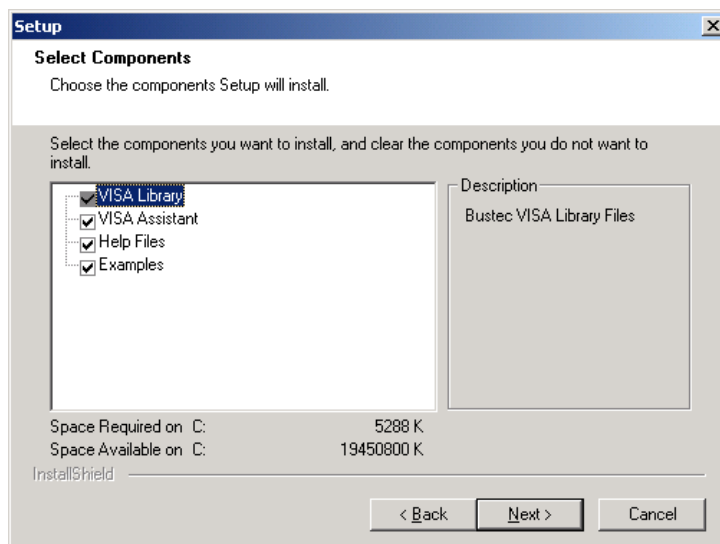

Figure 2 - Selecting Components for Installation.
7. If you have chosen “Custom”, selecting “Next” will allow you to select the components to install (see Figure 2):